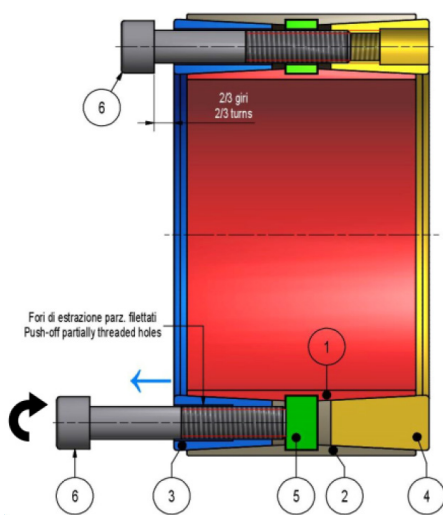

Fig. 5
2. Loosen all screws by two/three turns; then transfer some screws into all push-off partially threaded holes in the front thrust ring. **Progressively tighten these screws in a crosswise pattern, using approx. ¼ turns for several passes** until front thrust ring is released (fig. 5). Remove the screws still engaged in the rear thrust ring; then remove the front thrust ring.